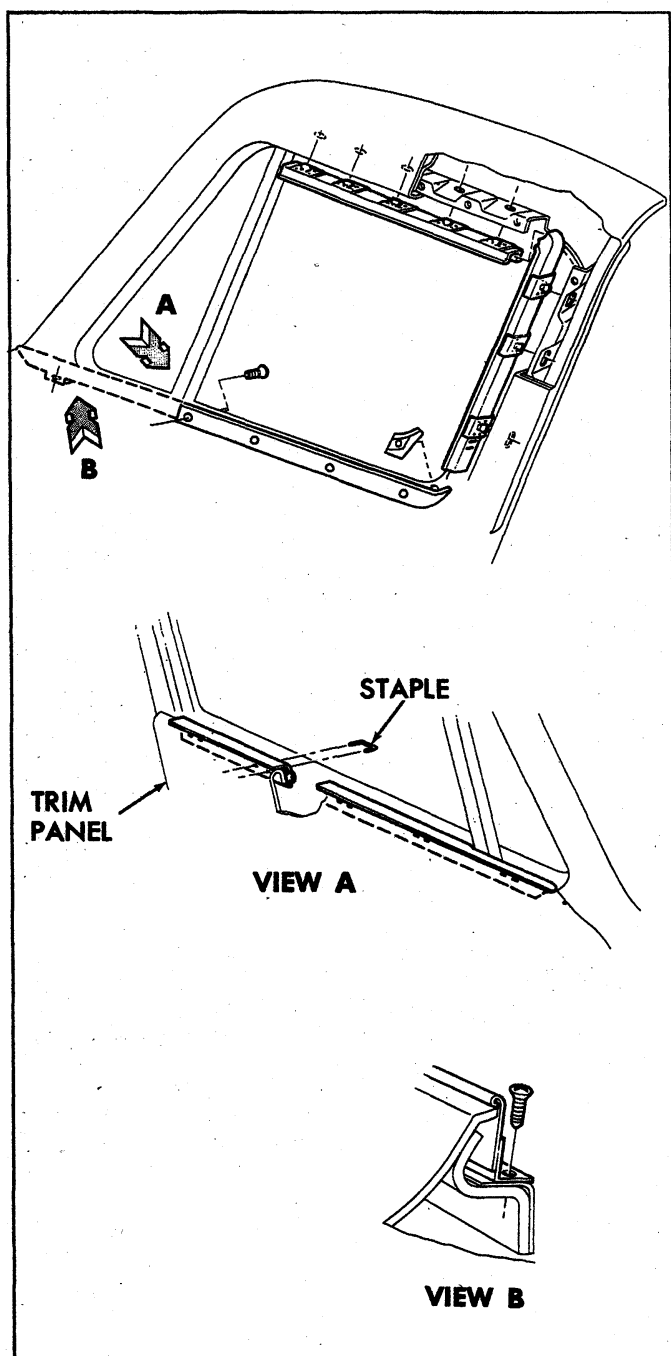

Fig. 39—Window Run and Seal Assembly
3. Remove retaining screws (4 on 37, 5 on 67). Refer to Figure 39.
The window inner seal shown in View A of Figure 39 is retained to the door trim panel with staples. It is necessary to remove the trim panel from the vehicle to replace the inner seal.